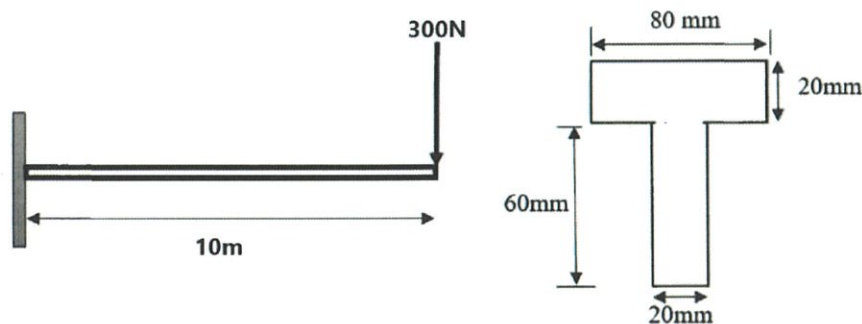

Figure 3 (b) / Rajah 3 (b)
- (b) A cantilever T shape beam 10 m long supports a load of 300 N at the end of beam as illustrated in Figure 3 (b). Calculate: